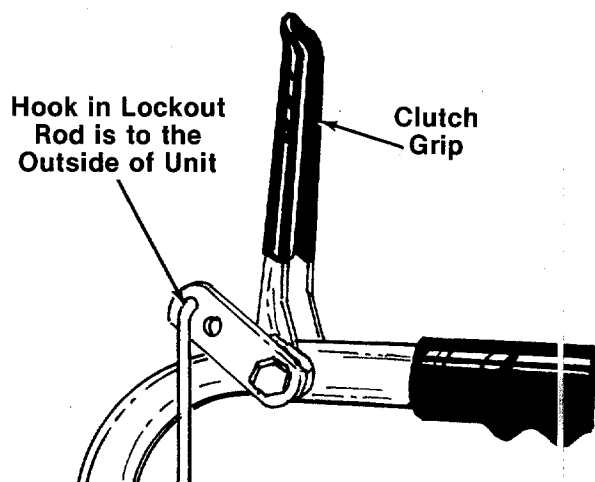

FIGURE 15.
20. Hook the right hand lockout rod (labeled "R") into the hole provided in the right hand clutch grip (auger clutch). Hook the left hand lockout rod (labeled "L") to the left hand clutch grip (drive clutch). See figure 15. The hook is to the outside of the unit.